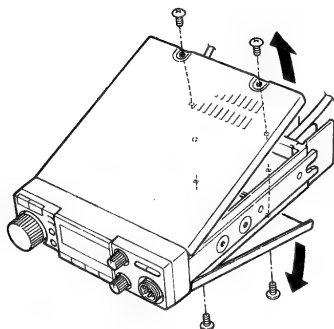

Fig. 1
- 1) Remove 4 screws from the top and bottom covers and remove the covers. (Fig. 1)